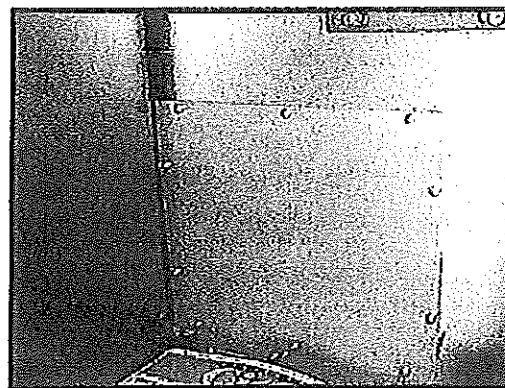

Figure 71: Access panel.
5. The access panel is now visible (Figure 71).